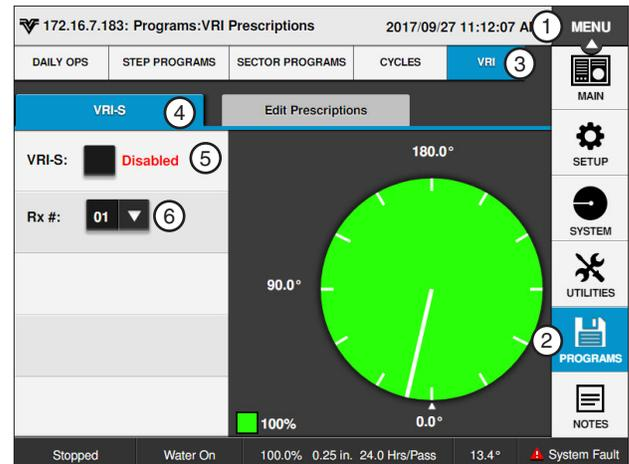

Figure 159-1 1. Menu
The Configure Prescription button is used to select, edit, review and load prescription numbers and sectors. Push **Menu**, **Programs**, **VRI-S** and **Edit Prescriptions** to view the Edit Prescriptions screen. Refer to Figures 159-1 and 159-2.
1. Push **Menu**, **Programs**, **VRI** and **VRI-S** to display the VRI-S screen. Refer to Figure 159-1.